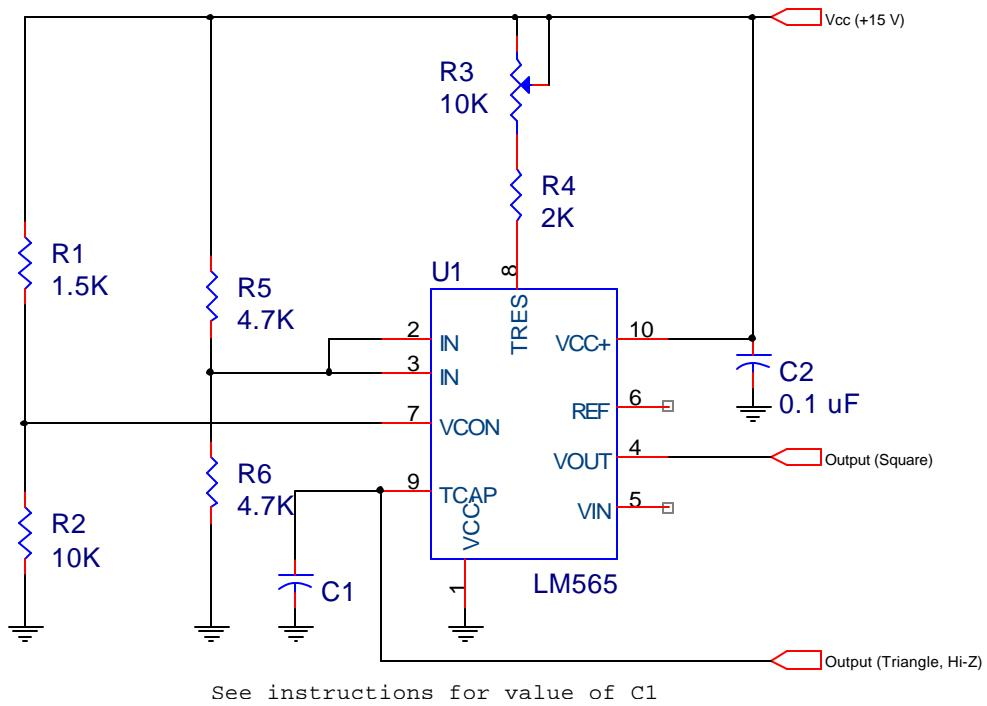

Figure 1: LM565 VCO with Constant Control Voltage
Two different LM565 VCO circuits will be examined in this experiment, and they are shown in Figures 1 and 2. In Figure 1, the *control voltage* of the VCO is held constant by resistors R1 and R2, and the RC time-constant is varied by R3. (Note that the total resistance R_t in Figure 1 is the series combination of R3 and R4).
1. Build VCO circuit #1 of Figure 1. Please take care to adjust the V_{cc} supply accurately (use a DVM to verify its value), or your calculations may not match your measurements.